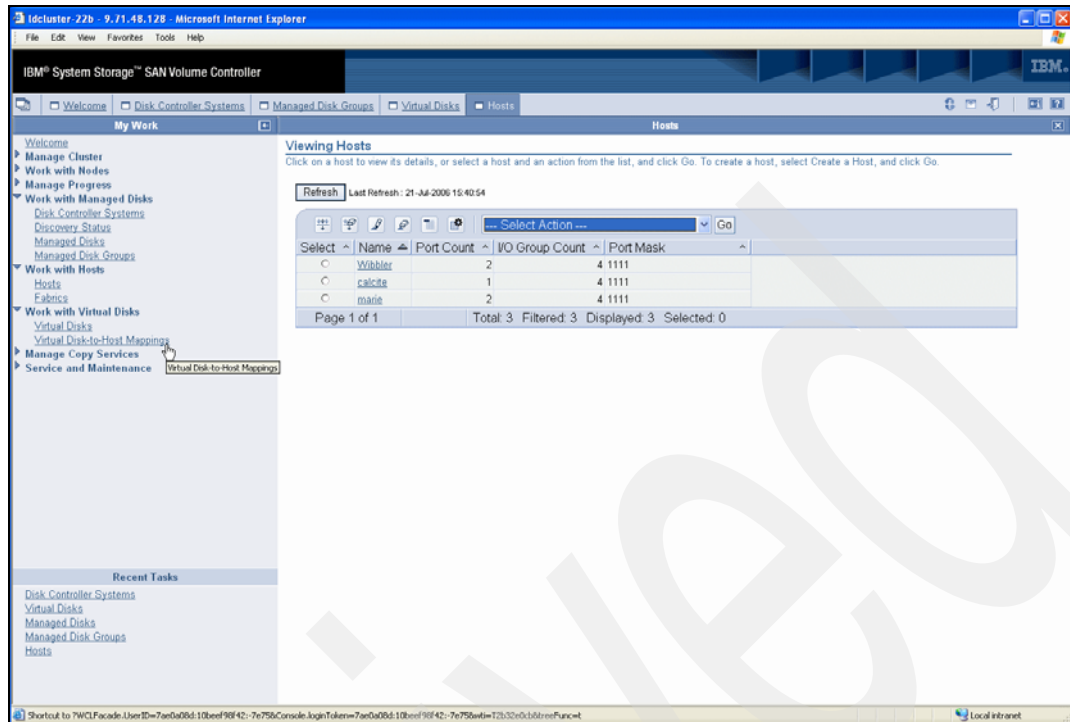

Figure 7-21 Host view after adding new host
5. Click **OK** to complete the host creation. Figure 7-21 shows the host view panel after the new host has been added.